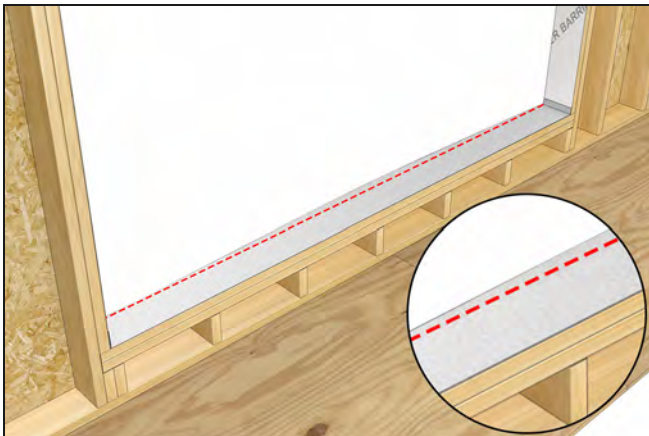

Figure 6
2. Establish an exterior plane along the sill. Use a laser level or snap-line. This will be helpful for larger multiple wide assemblies. See Figure 6.